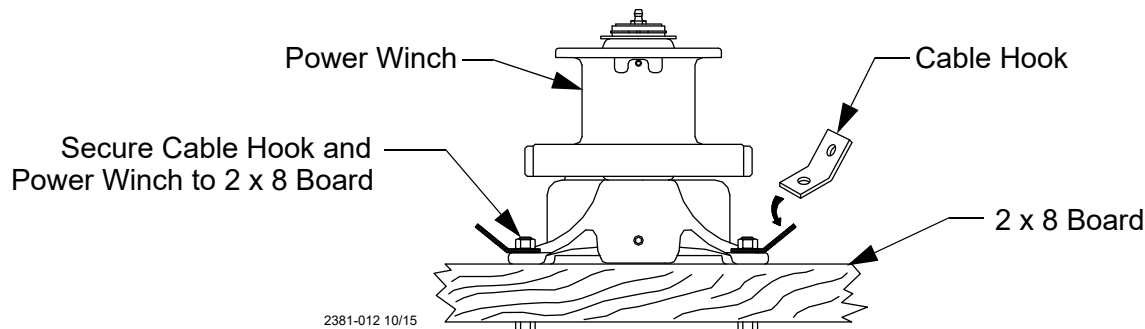

Figure 19. Swivel Pulley Installation
1. Bolt the power winch, fully assembled, to a 2 x 8" (50 x 200 mm) board or other fixture that will span at least 3 rafters. The brake mechanism will protrude on one side. For feeder lines over 350 feet (106 m), install a 2985 cable hook between the mounting bolt and power winch frame, as shown in **Figure 19**.